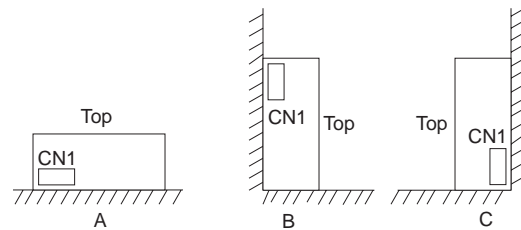

Fig. 4.3 Installation method 1
■ When mounting the power supply with screws, it is recommended that this be done as shown in Fig. 4.3. If other methods are used, be sure the weight of the power supply is taken into account.